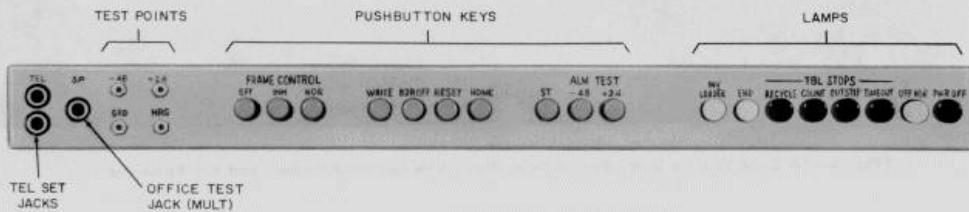

Fig. 5—MCW Control Panel
**2.05** The control panel (Fig. 5) contains pushbutton keys, lamps, and some miscellaneous circuit apparatus. The pushbutton keys provide control for the mechanical operation of the 1A card writing unit as well as control of power and alarm tests. The lamps are used to indicate power status, trouble conditions, and various operating conditions of the MCW.
**3.11** The MCW has seven different modes of operation. These modes are controlled by keys and indicated by lamps located on the MCW control panel (Fig. 5). The modes of operation are as follows: